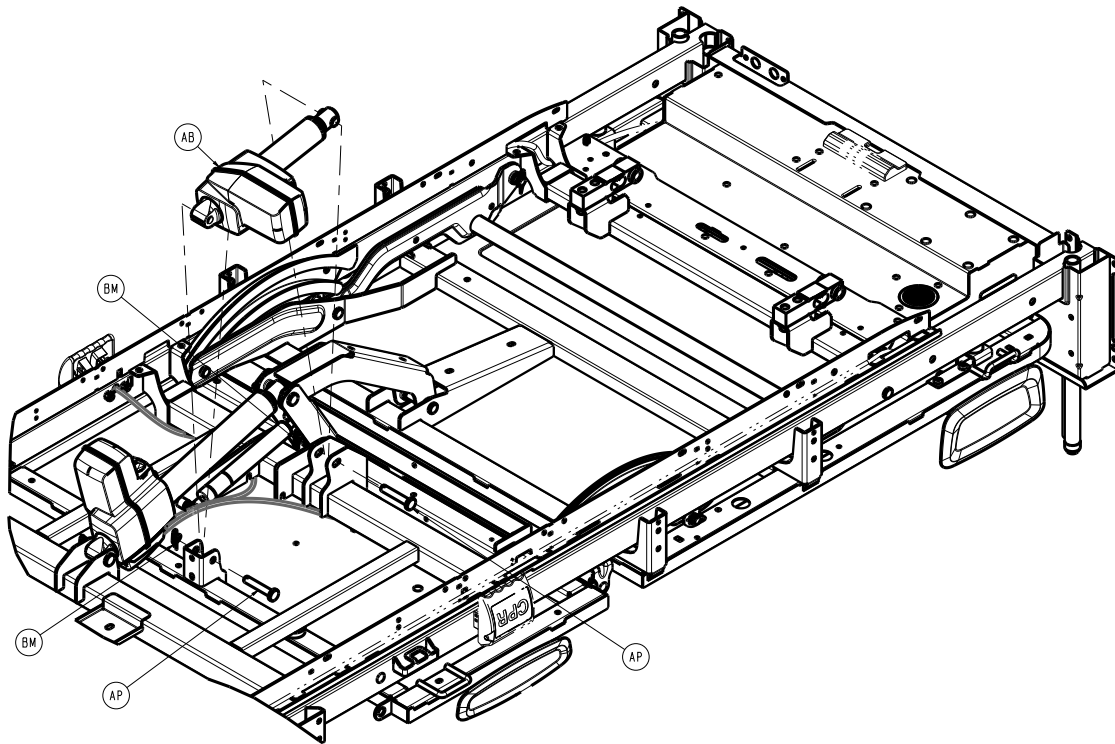

Figure 45 – Replacing the Gatch actuator
6. Using needle nose pliers, remove the two rue clips (BM) from the two clevis pins that secure the Gatch actuator (AB) to the litter and the Gatch frame (Figure 45). Save the rue clips.
7. Support the actuator. Remove and save the two clevis pins (AP) (Figure 45).